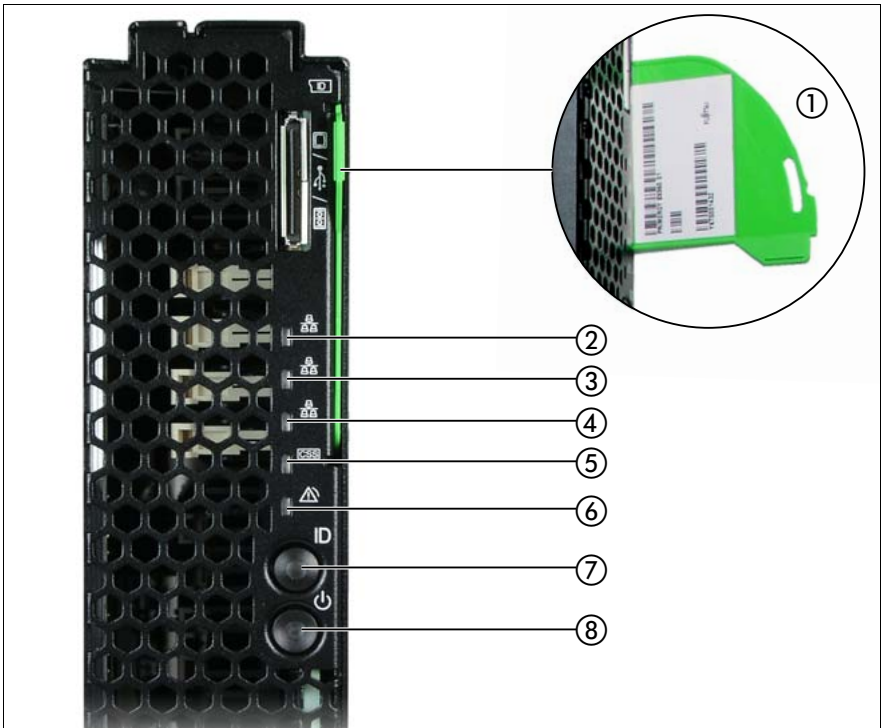

Figure 6: Control and display elements
You can pull out the ID card (see figure 6 on page 41 above) as far as it will go and push it back in again.
The system unit is switched on and the power-on indicator (item 8 in figure 6 on page 41) is flashing green.
- To switch the server blade on, press the On/Off button on the server blade (item 8 in figure 6 on page 41).
To switch the server blade off, hold down the On/Off button on the server blade (item 8 in figure 6 on page 41) for 4 seconds.